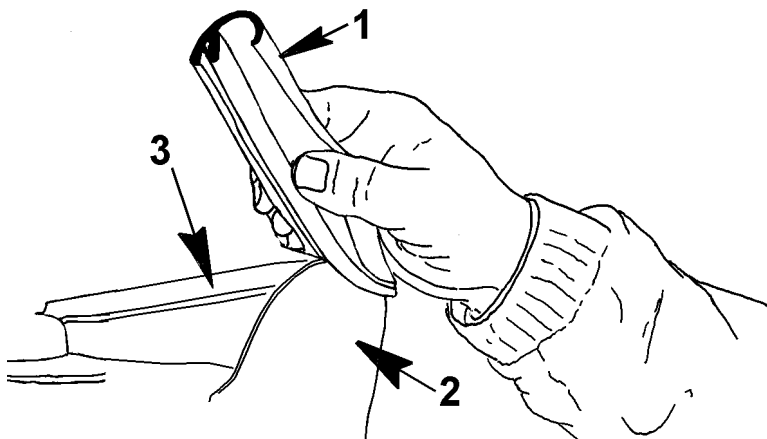

Figure 48 Hood Seal — Install
2. Pull upward to remove the seal (Figure 48, Item 1) from the entire lip of the cowl tray across the front of the cab.